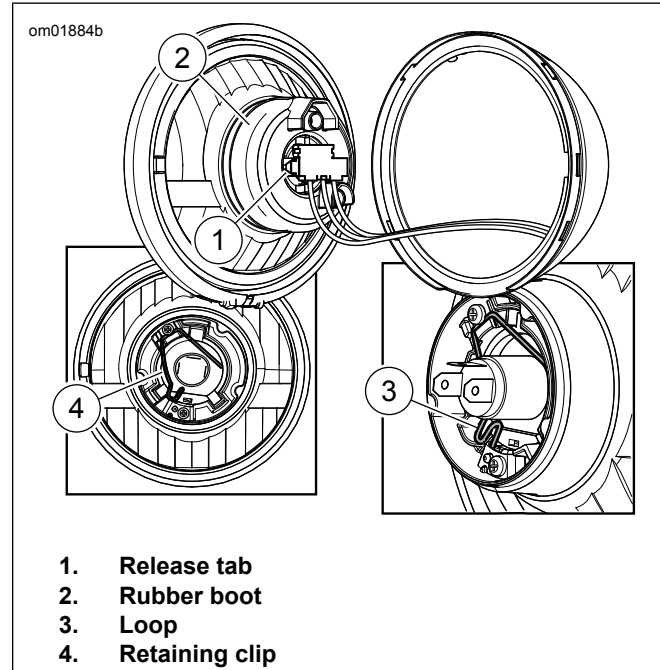

Figure 72. Headlamp
5. See Figure 72. While compressing the release tabs (1) on the connector, pull the connector off the bulb spade terminals.
6. Pull the rubber boot (2) back.
7. Press the loop (3) on the wire retaining clip (4) down and to one side to disengage the free end of the clip from the metal catch. Rotate the clip up. Remove the bulb from the lens and reflector.
2. See Figure 72. Rotate the retaining clip down against the bulb flange. Press the wire loop down and in until the free end of the clip engages the metal catch.